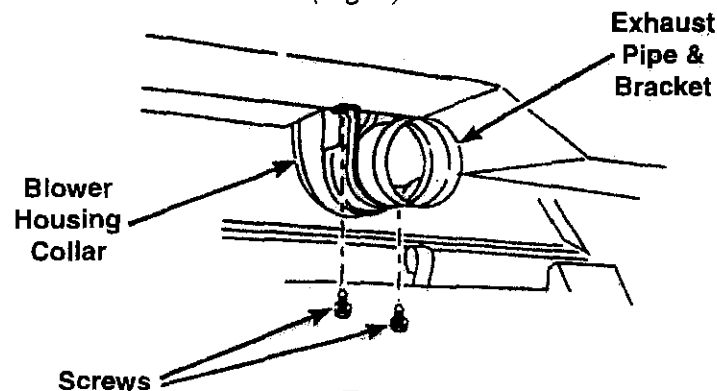

Fig. 7
2. Remove the two (2)  $\frac{5}{16}$ -inch screws securing the exhaust pipe bracket to the laundry system. Remove the factory installed exhaust pipe from the blower housing collar. Save the exhaust pipe bracket and screws for use later. (Fig. 7)